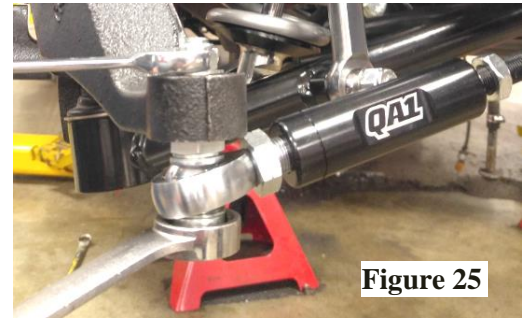

Figure 25
24. The included steering rack is an OE type '79-'93 mustang (Cardone P/N 97-207). Attach steering rack to lower cross-member using 5/8" x 5.5" bolts (#20), one .120" thick washer (#19) under bolt head, with 5/8" SAE washers (#22) and nylock nut (#23). **(Figure 25)**